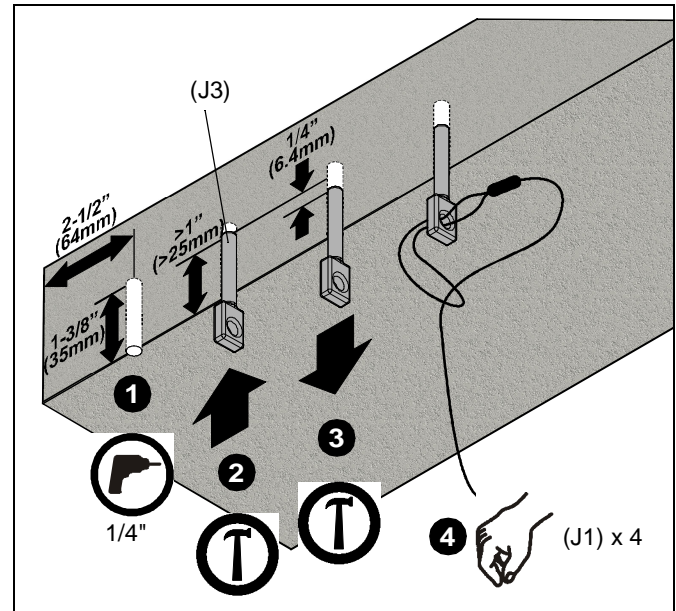

Figure 5
1. Drill 1/4" diameter x 1-1/8" deep pilot hole at each marked cable anchor support location. Ensure hole is at least 2-1/2" from nearest concrete edge. Remove debris from hole. (See Figure 5)
2. Tap anchor (J3) into each hole to a depth of at least 1". (See Figure 5)
3. Using claw portion of hammer, set each anchor (J3) by pulling it out of hole approximately 1/4". (See Figure 5)
4. Insert portion of manufactured loop on cable (J1) through hole in anchor (J3), and insert end of cable (J1) through loop. Repeat for 3 remaining support locations. (See Figure 5)